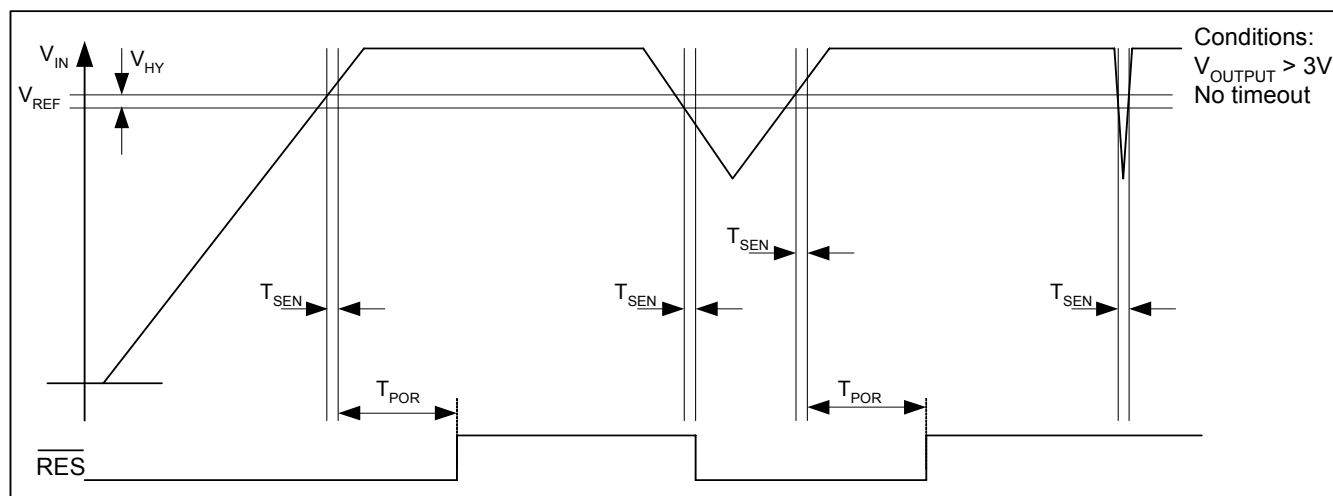

Fig. 5
**Note 5:** the comparator reference is the power-down reset threshold. The power-on reset threshold equals the comparator reference voltage plus the comparator hysteresis (see Fig. 5).
At power-up the reset output ( $\overline{RES}$ ) is held low (see Fig. 5). When VIN becomes greater than VREF, the  $\overline{RES}$  output is held low for an additional power-on-reset (POR) delay TPOR (defined with the external resistor connected at ROSC pin). The TPOR delay prevents repeated toggling of  $\overline{RES}$  even if VDD voltage drops out and recovers. The TPOR delay allows the microprocessor's crystal oscillator time to start and stabilize and ensures correct recognition of the reset signal to the microprocessor.